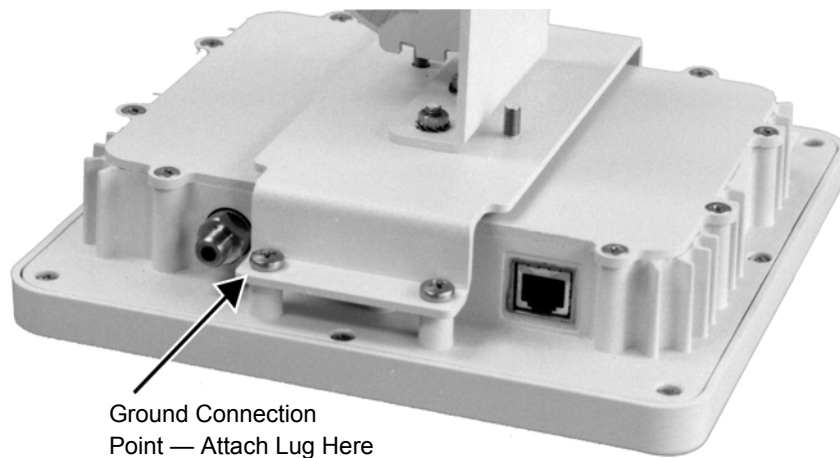

Figure 4-4 **Location of Grounding Screws on Outdoor Unit (Radio/Antenna)**
1. Locate the ground point on the back of the Outdoor Unit. It is the screw in the lower left corner (the unpainted corner) of the mounting bracket support attached to the rear of the Outdoor Unit. (See *Figure 4-4*.)